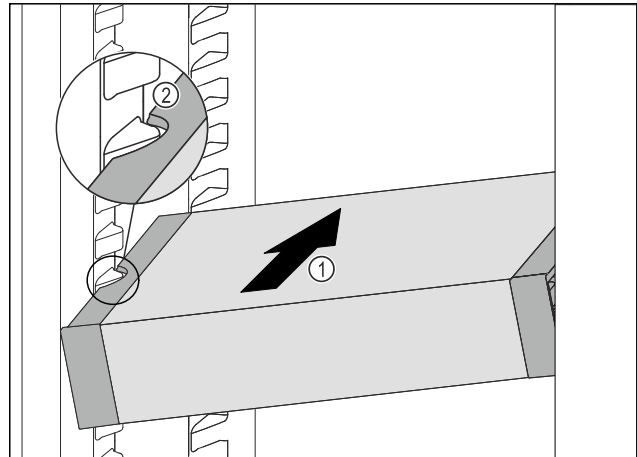

Fig. 98
- Insert the VarioSafe into the refrigerator compartment at an angle Fig. 98 (1) until the recesses in the side Fig. 98 (2) of the VarioSafe are at the level of the support rib in the refrigerator compartment.